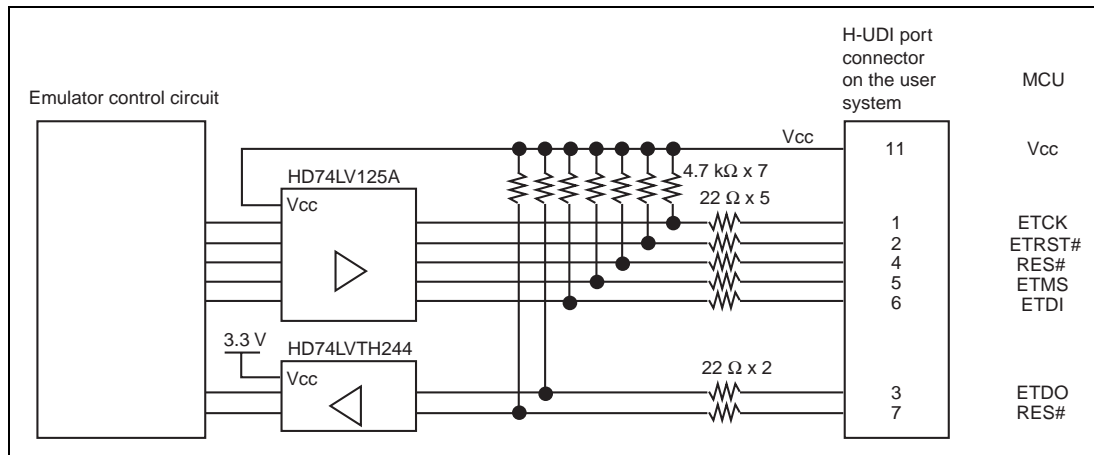

Figure 4.6 Interface Circuit in the Emulator (Reference)
7. Figure 4.6 shows the interface circuit in the emulator. Use this figure as a reference to decide the pull-up resistance value.